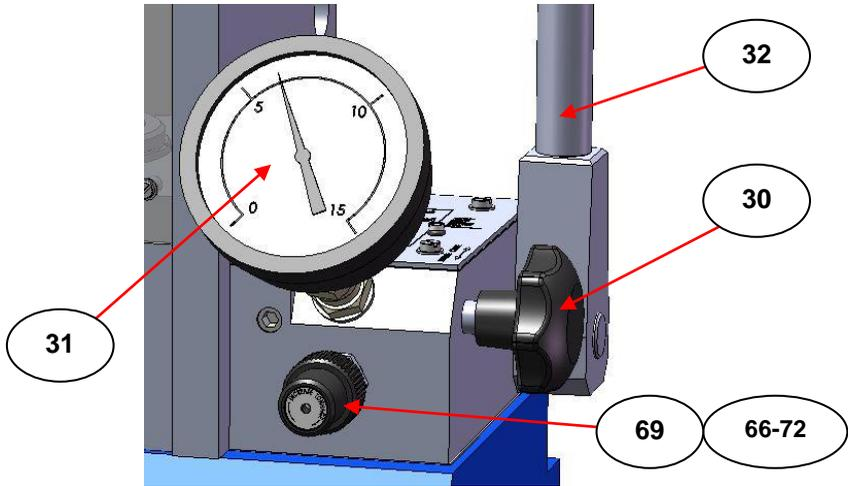

Fig 7. Pressure Relief Valve for Setting a Maximum Load
Beneath the pressure gauge (31) there is a pressure relief valve assembly (66 to 72) which may be set so that any load between 0-15 tons is the maximum load that can be obtained. (See Fig 7.) The relief valve set knob (69) can be rotated clockwise to increase the maximum pressure in the system, and hence the applied load, or rotated anticlockwise to decrease the pressure in the system.